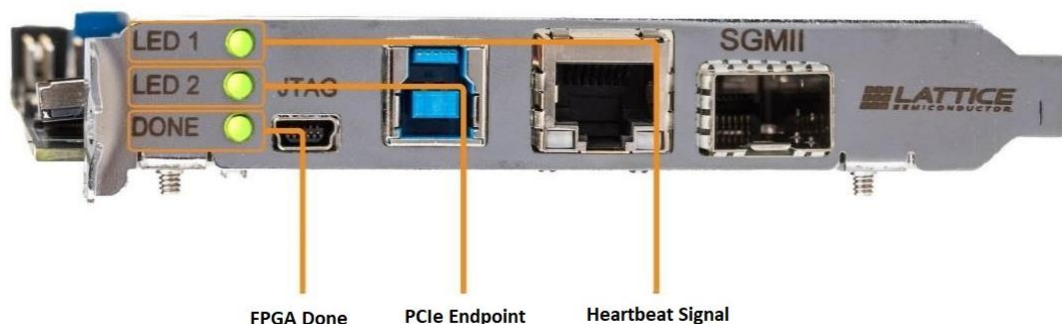

Figure 6.11. Front Facial LEDs Status after PCIe Linkup
4. You can observe the Board status through the three front facial LEDs status (Figure 6.11).